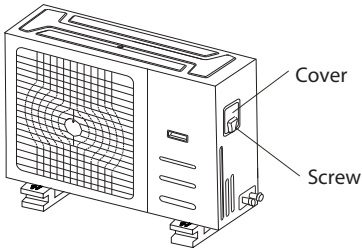

Fig. 8.1
- 2. Remove the electric cover of the outdoor unit. If there is no cover on the outdoor unit, take off the bolts from the maintenance board and remove the protection board. (See Fig. 8.1, 8.2)